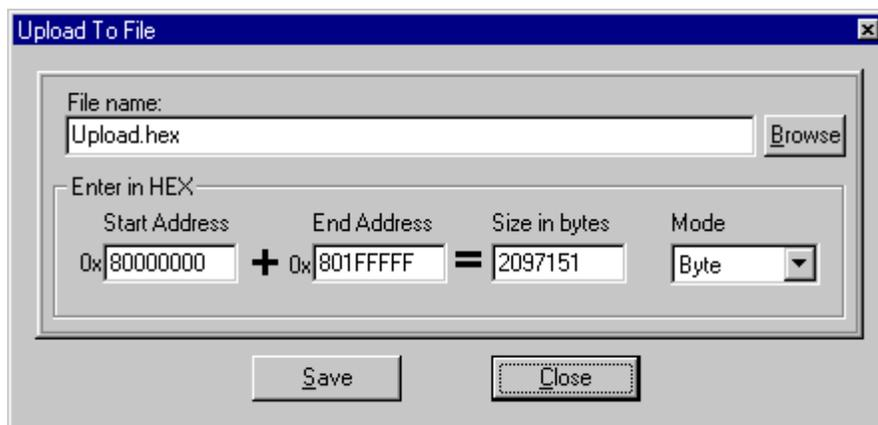

Figure 3-2 Upload To File Dialog Box
10. To upload FLASH memory contents to a file in your PC, click on the Upload button. This brings up the Upload To File dialog box, **Figure 3-2**: